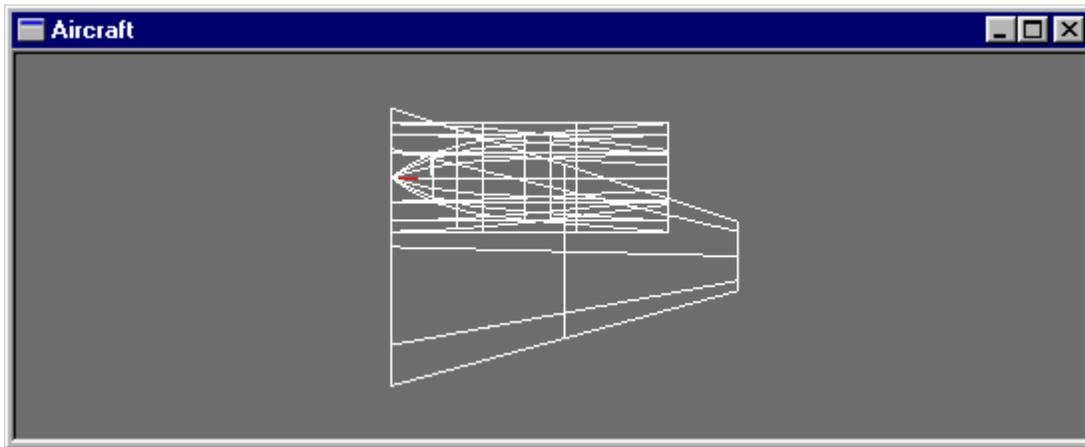

Figure 32. Geometry View of components.
1. Switch to the Geometry view. The Geometry View allows you to see a geometric rendering of the components. Because the components have not yet been positioned, they may appear to be on top of each other, as shown in Fig. 32.